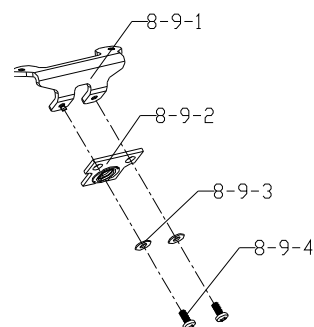

Figure 17
1. Figure 17 illustrates assembly of the alarm board. Remove the 2 crosshead plate screws M2.5×6 (8-9-4#).